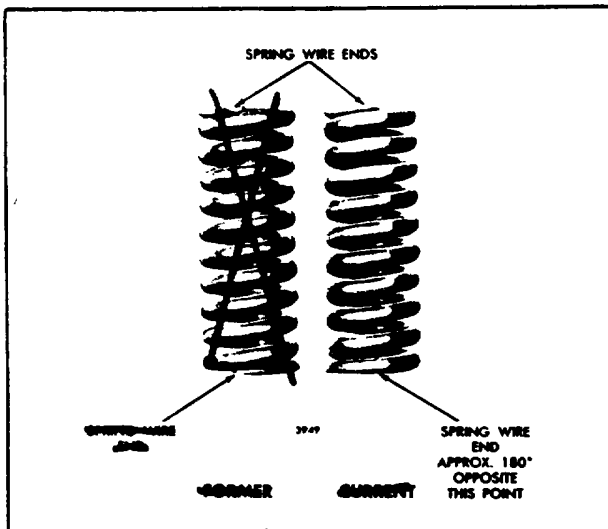

Fig. 11. - Push Rod Spring Identification
2. Place the push rod springs (Fig. 11) on the push rods.
4. Place the push rod springs (Fig. 11) on the push rods.